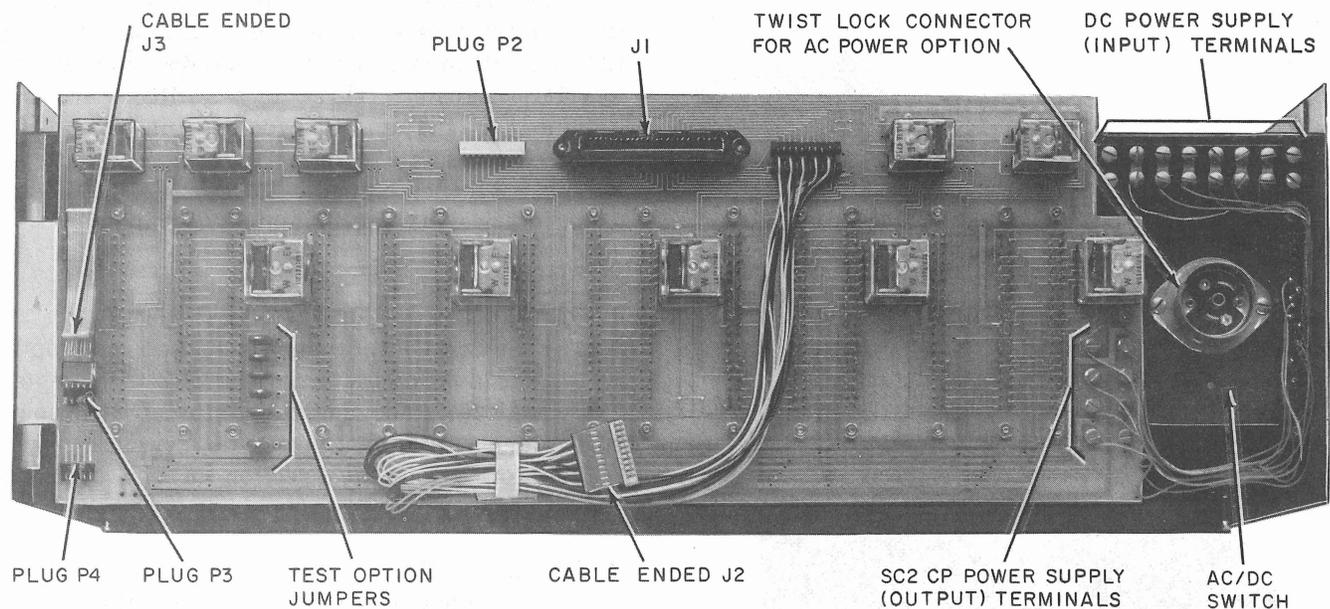

Fig. 3—56A1 Data Mounting Backplane
**2.03** The 56A1 data mounting is a black sheet metal chassis 7 inches high, 23 inches wide, and 11.5 inches deep, which weighs 43.5 pounds when fully equipped. The mounting accepts one SC2 CP and up to five SCUs. A 7 inch high by 18 inch wide backplane (Fig. 3) is attached at the rear of the data mounting. This backplane is